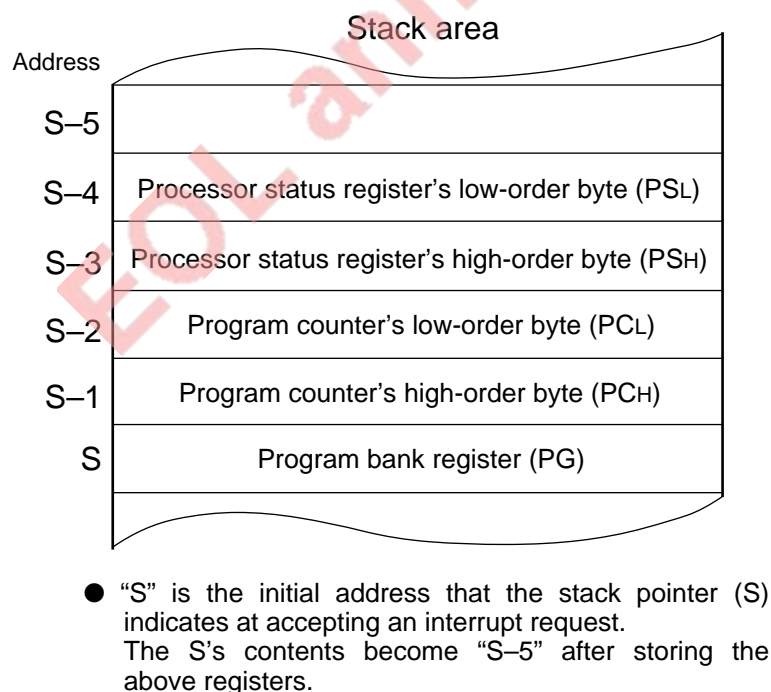

Fig. 2.1.2 Stored registers of the stack area
When an interrupt request is accepted, the microcomputer stores the contents of the program bank register (PG) at the address indicated by the contents of S and decrements the contents of S by 1. Then the contents of the program counter (PC) and the processor status register (PS) are stored. The contents of S after accepting an interrupt request is equal to the contents of S decremented by 5 before the accepting of the interrupt request. (Refer to "Figure 2.1.2.")